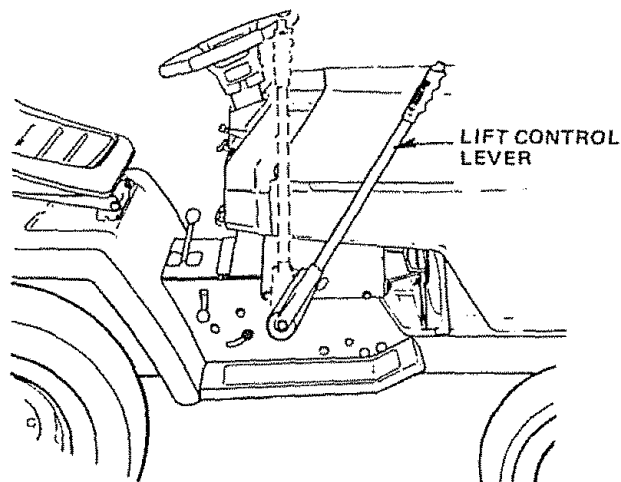

FIGURE 3
- a. MANUAL HITCH - Pull rearward on Lift Control Lever (Fig. 3).